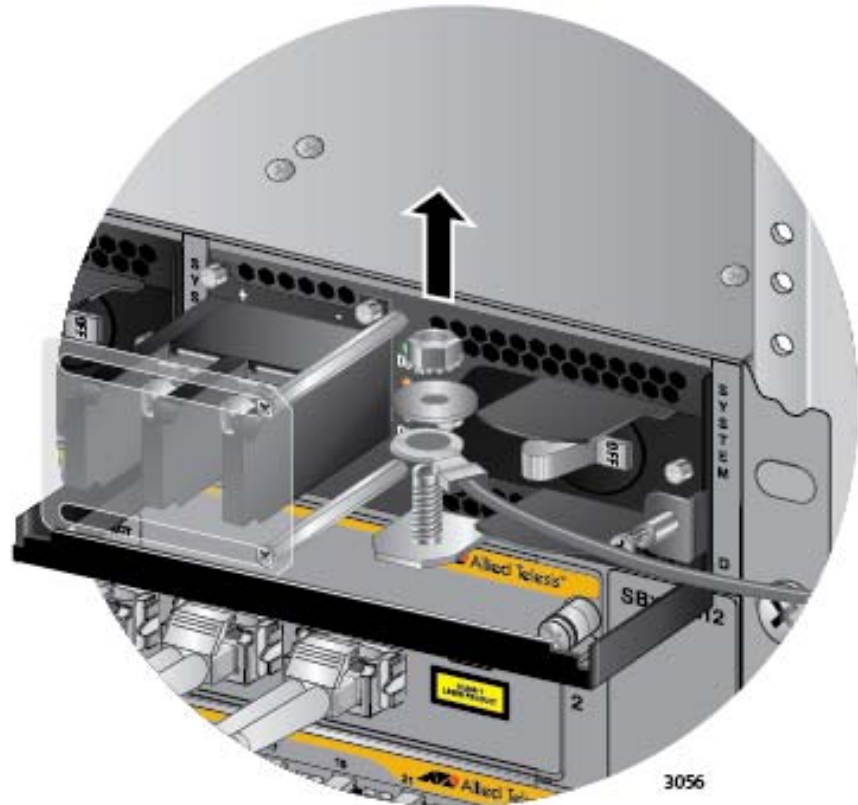

Figure 155. Removing the Grounding Wire
9. Use an 8 mm wrench to remove the grounding wire from the grounding post. Refer to Figure 155 on page 246.